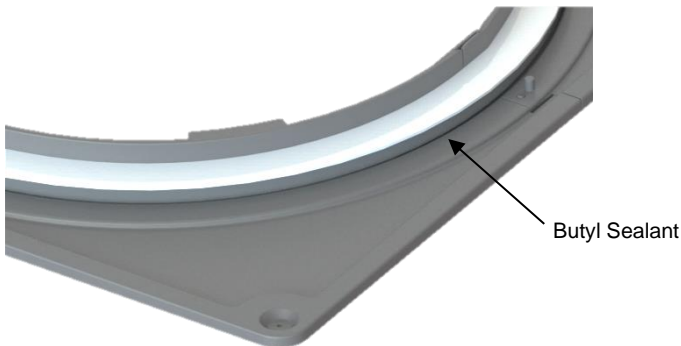

Figure 5
- 2.) With the white tape upward, apply approximately 77” of butyl sealant rope around the perimeter of the adapter flange where the riser pipe will meet the flange (Fig.5). Cut off remaining butyl sealant & set aside for step 11. Overlap and knead the ends of the butyl rope together to ensure a water-tight seal.